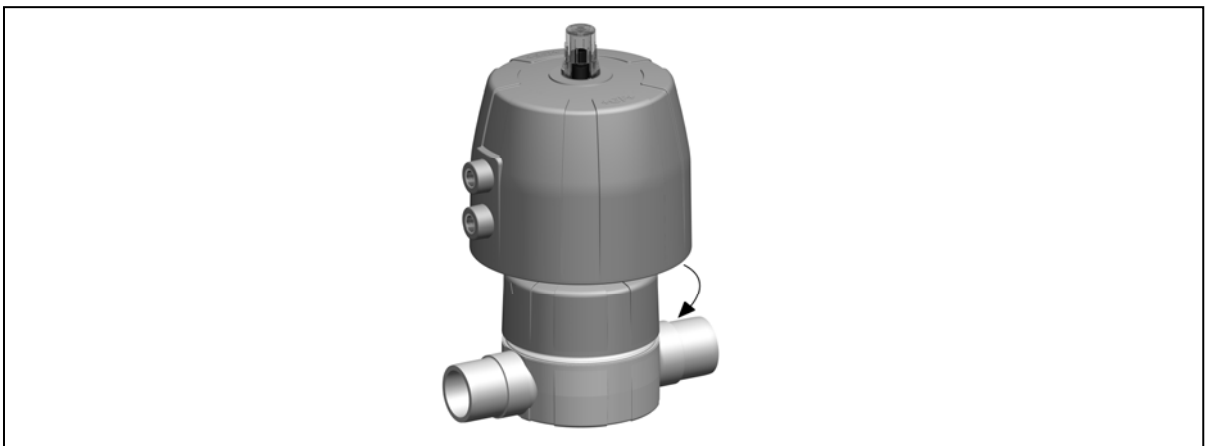

Fig. 15
- ▶ Position actuator on the valve body and tighten housing nut handtight, see fig. 15